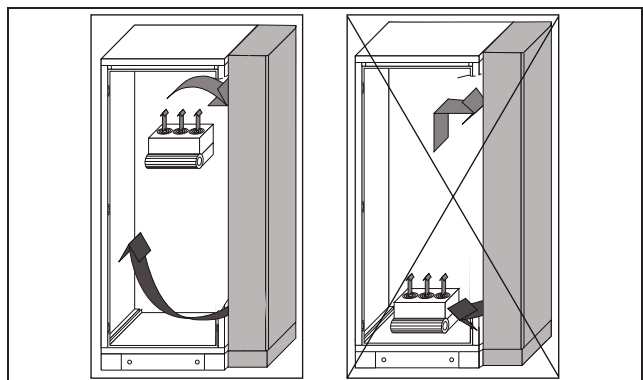

Fig. 3: Never direct the cold airflow at active components
- Exercise particular caution with the airflow from the blowers of built-in electronic components (fig. 3).